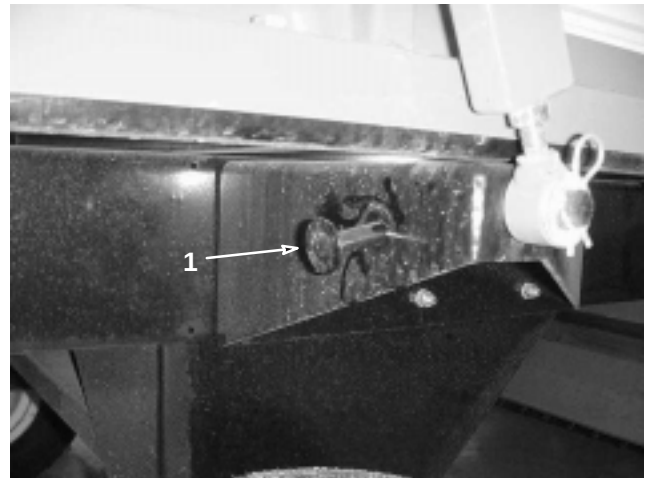

Figure 9
- Remove cotter pin securing door pin to frame (Fig. 9). Remove pin.